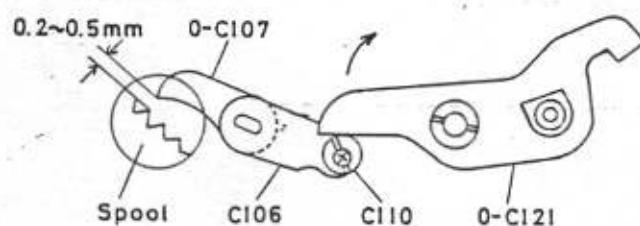

Fig. 25
- 1) At the condition R-lever does not hook with Sprocket shaft as shown in Fig. 25., the clearance between the pointed end of 0-C107 and Spool inner gear is in the range 0.2 - 0.5mm. Adjust it with C110 Eccentric collar..